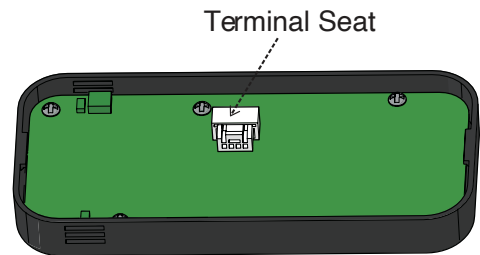

Fig. 4
3. Insert one end of the control switch lead wire into the PCB board terminal as shown in Fig. 4 and the other end through the back cover and installation opening as shown in Fig. 3.